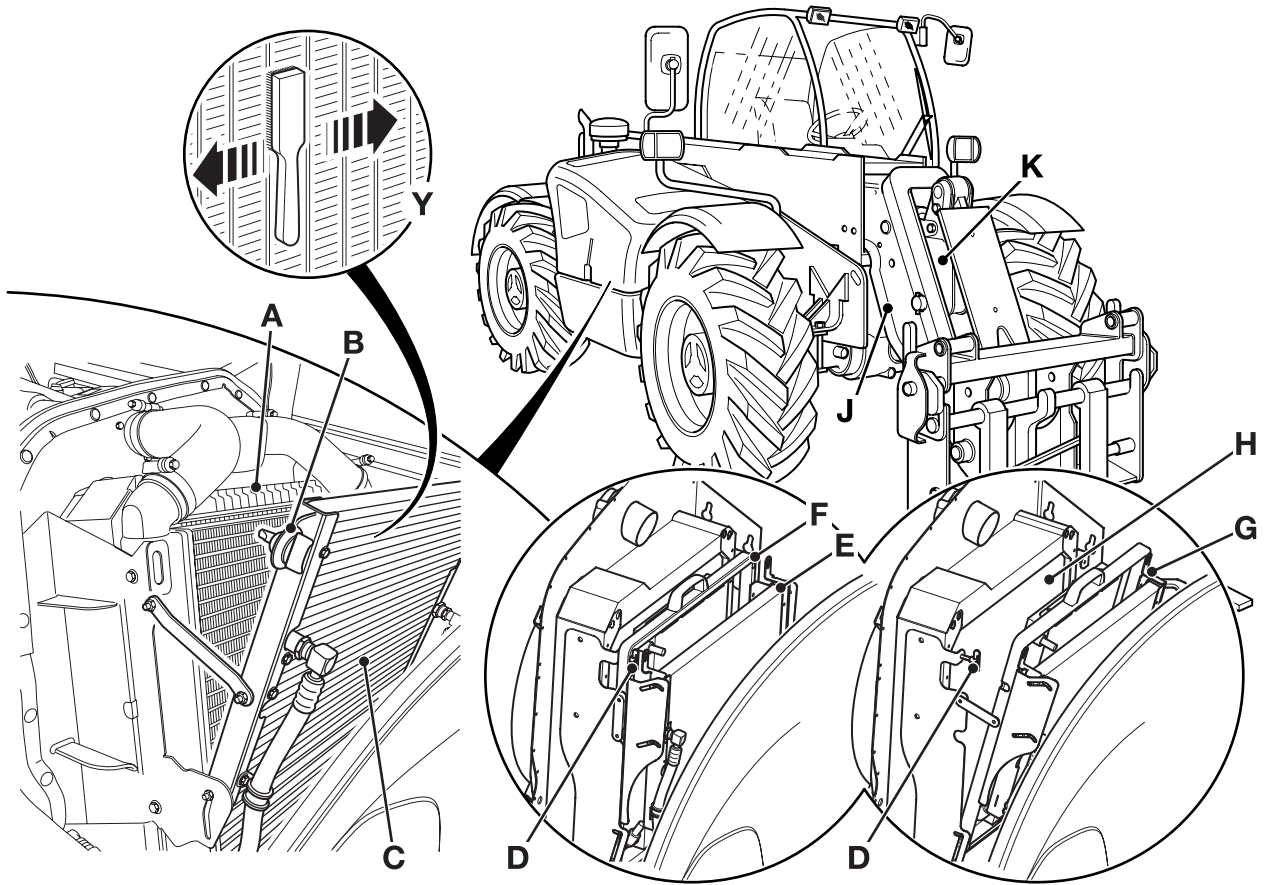

Fig 6.
Clean both sides of radiator **A**. Brush off all debris from the tubes and fins using a soft bristle brush **Y**. Make sure the loosened material is brushed out of the cooling enclosure. ⇒ Fig 6. \(□ 3-30\).
- 6 Do not allow debris to accumulate in the cavity **K** at the end of the boom on 531-70, 536-70 and 541-70 machines. ⇒ Fig 6. \(□ 3-30\). Remove and clean away all debris that may have built up around the tilt ram.